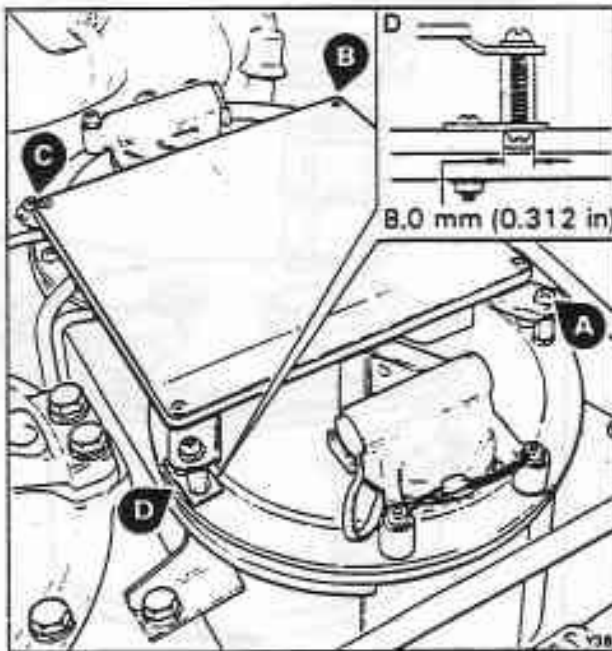

Fig. G5-8 Hydraulic system mineral oil reservoir conversion (All cars other than Corniche)
10. Drill three holes 4,8 mm (0.187 in) diameter holes through the reservoir assembly and fit the stand-off pillars as shown in figure G5-8, A, B, and C.
11. Drill one 8 mm (0.312 in) diameter hole in the reservoir lid (see fig. G5-8 inset D).
13. Fit the new multi-lingual label to the stand-off pillars (see figs. G5-8 and G5-9).
2. If the reservoirs incorporate the latest filler arrangement as shown in figure G5-8, fit the filler cap, security seals (ensuring that new locking wire and lead seals are used), and warning labels.